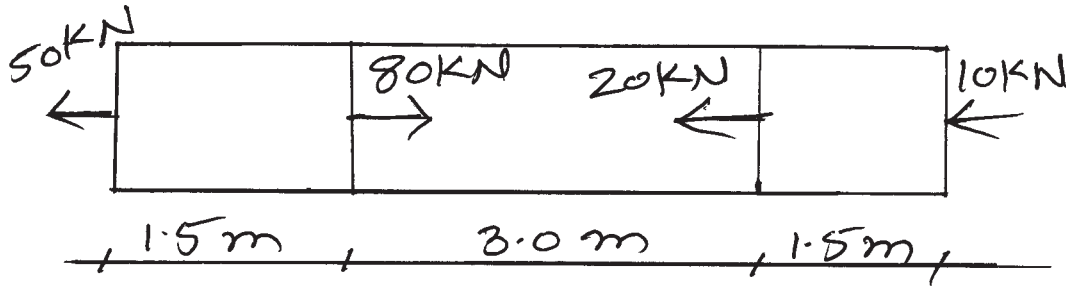

Fig. No. 2
- c) A steel bar 800 mm^2 cross-sectional area is subjected to axial forces as shown in Figure No. 2. Find total change in length of the bar if $E = 2 \times 10^5 \text{ N/mm}^2$.